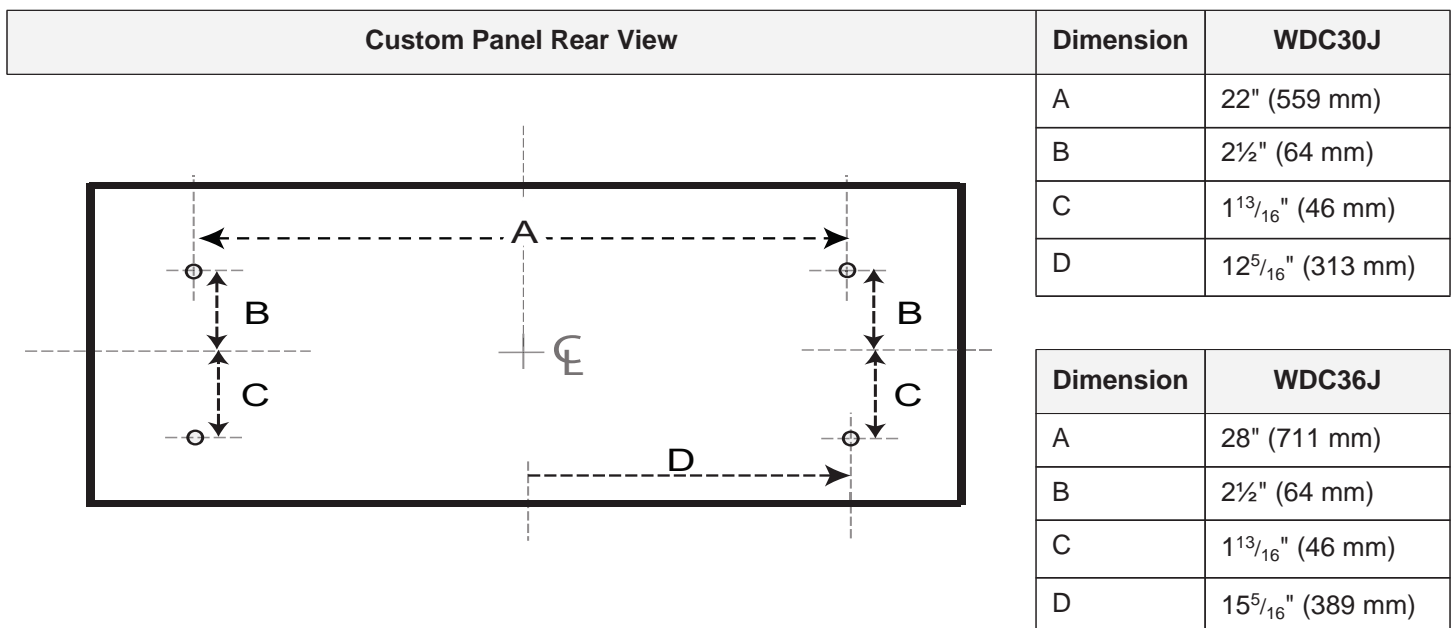

Figure 7: Pilot Holes Hole Dimensions
1. Mark pilot holes **on the back side of the panel** according to the dimensions indicated in *Figure 7*.
1. On the back side of the custom front panel, mark the pilot holes at the locations and specifications indicated in *Figure 7* and *Figure 8*.
3. With the flanges facing away from the custom front panel, screw the included stainless steel panel to the back of the custom front panel with four (4) 1/2" (12.7 mm) screws. Do not tighten down.